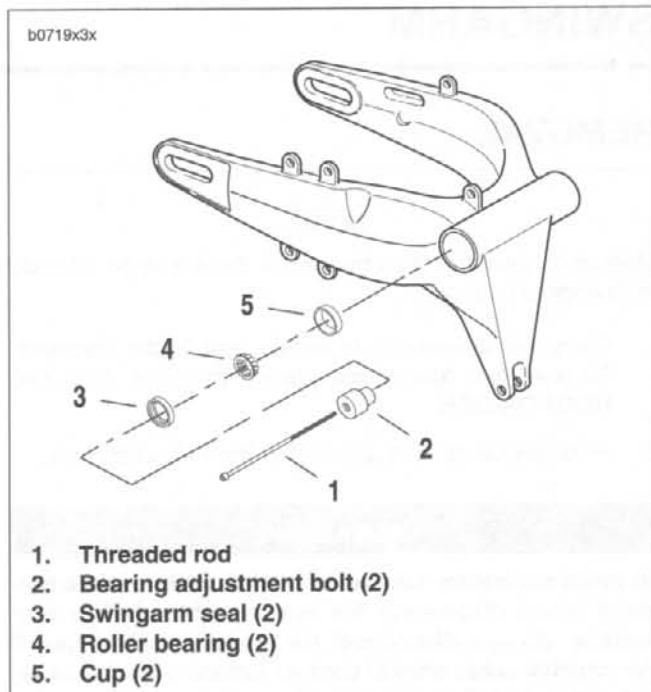

Figure 2-114. Swingarm Bearings
1. See Figure 2-114. Remove and discard both swingarm seals (3).
2. Remove roller bearings (4).
3. See Figure 2-114. Install **new** swingarm seals (3) flush to the swingarm.